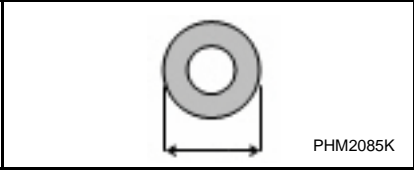

Figure 2
- 9. Basket and motor Pulley Diameter (Measure the pulley's outside diameter [Refer to *Figure 2*] or provide the pulley's part number): \_\_\_\_\_